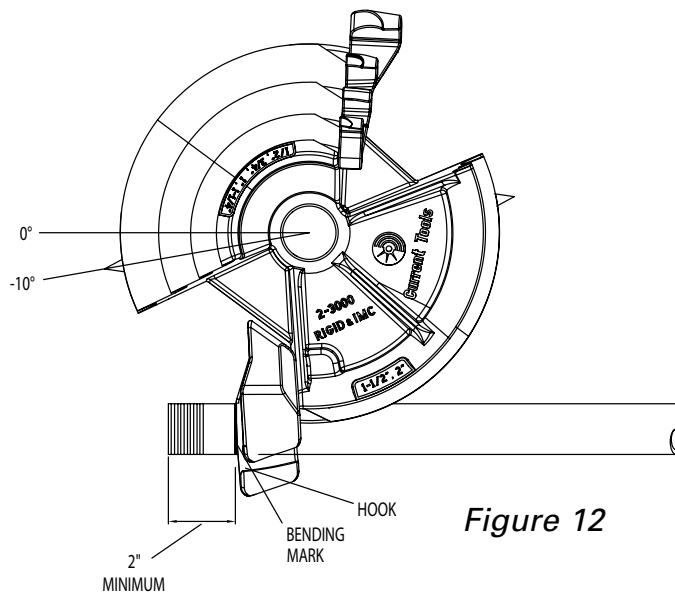

Figure 12
1. Mark pipe/conduit to the desired length. Note that a 2" minimum distance from the end of the conduit to the bending mark is required to eliminate flattening the end of the pipe/conduit. See Figure 12.
2. Rotate the bending shoe to 10 degrees below the 0 ( zero ) degree setting, as shown in Figure 12 below.
3. After marking the pipe/conduit, place it into the bender. See Figure 12. The pipe/conduit should slide over the correct size roller support, through the shoe groove and into the hook. The bending mark should be at the front ( OUTSIDE ) edge of the hook. See Figure 12.
3. Rotate the bending shoe to 10 degrees below the 0 (zero) degree setting. See Figure 12.